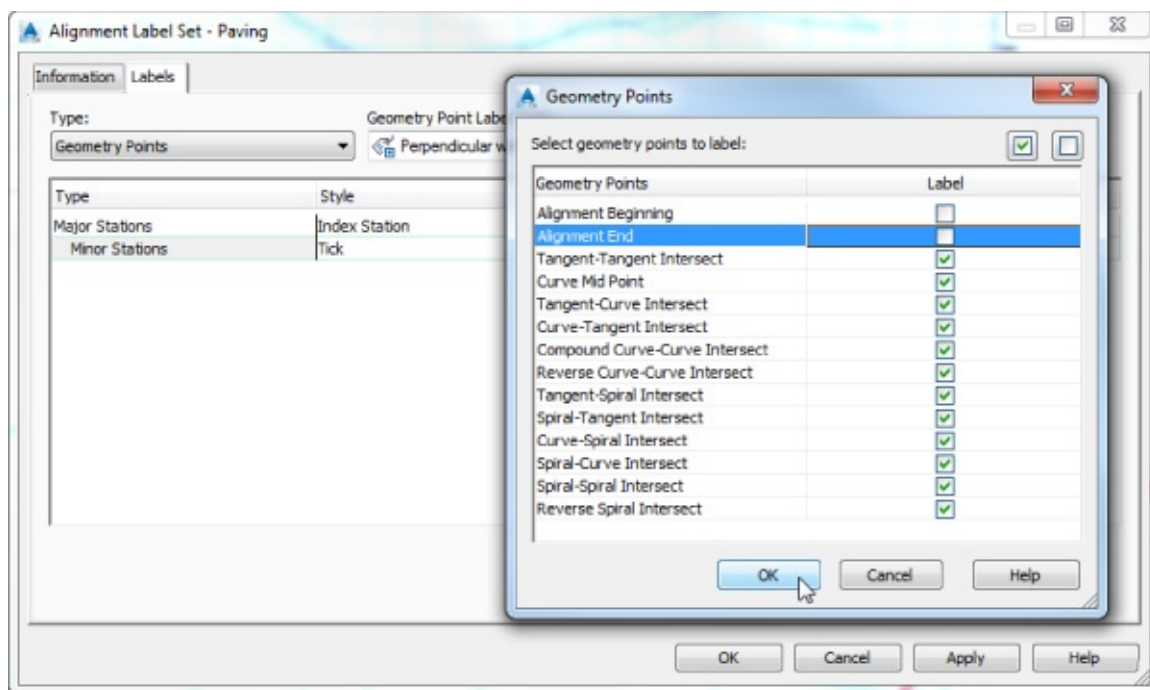

Figure 18.35 Deselecting the Alignment Beginning and Alignment End geometry point check boxes
7. Set the Type drop-down to Geometry Points and the Geometry Point Label Style drop-down to Perpendicular With Line. Then click the Add button to open the Geometry Points dialog, as shown Figure 18.35.